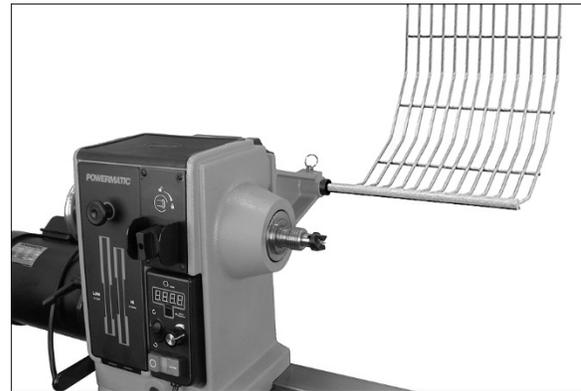

Figure 6-5: optional guard tilted back
4. The guard can be pivoted to one of two positions: Operating mode or tilted back for stock loading (shown in Figure 6-5).